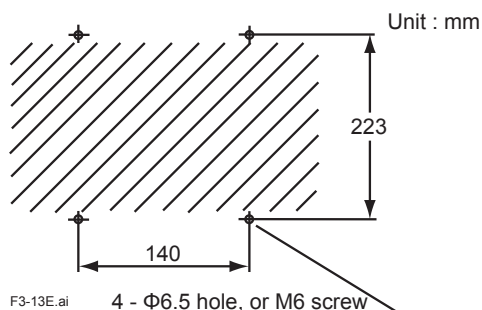

Figure 3.15 Mounting holes
- (1) Make a hole in the wall as illustrated in Figure 3.15.
- (2) Mount the flow setting unit. Remove the pipe mounting parts from the mount fittings of the flow setting unit and attach the unit securely on the wall with four screws.